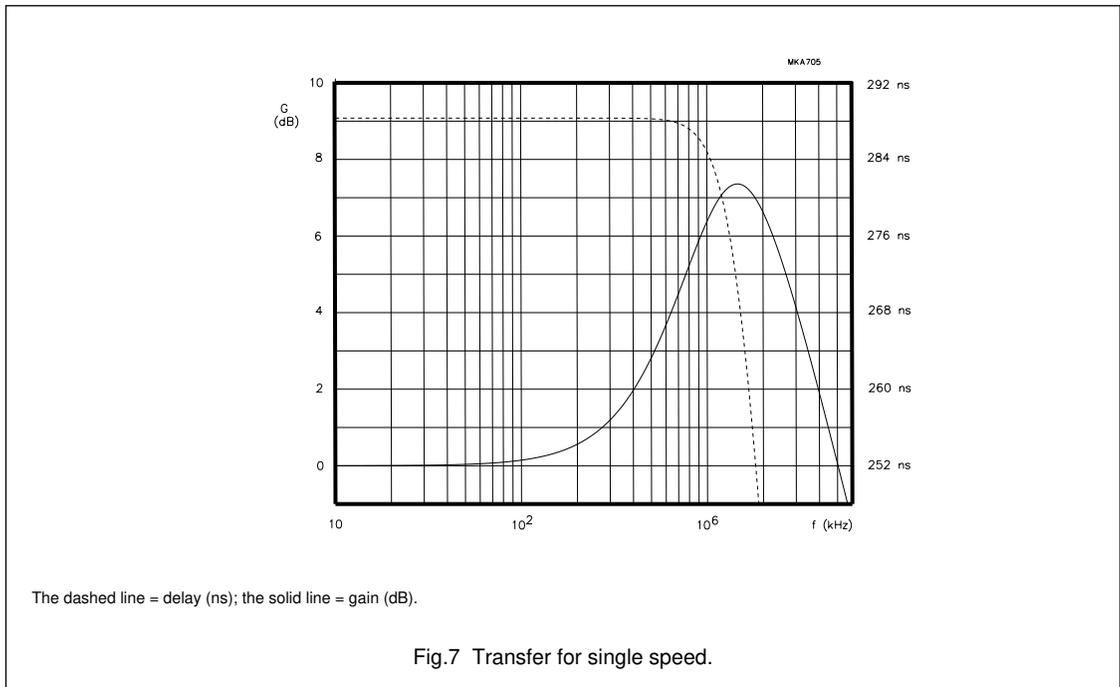

Fig.7 Transfer for single speed.
8. For single speed the gain ratio is defined as gain difference between 1 MHz and 100 kHz, while the flatness delay is defined up to 1 MHz (see also Fig.7). For double speed the gain ratio is defined as gain difference between 2 MHz and 200 kHz, while the flatness delay is defined up to 2 MHz.